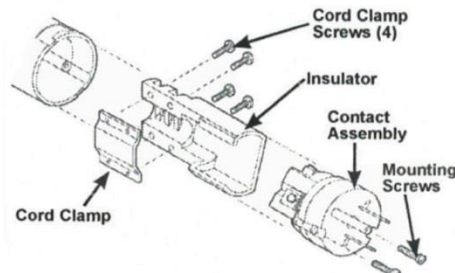

Figure 1
1. Loosen two mounting screws (#4-40 x 5/8" long) in plug face but do not remove all the way to maintain captive feature. Remove contact assembly, insulator and cord strain relief clamp. Note orientation of insulator before complete removal. (See Figure 1) Be careful not to lose the mounting screws.